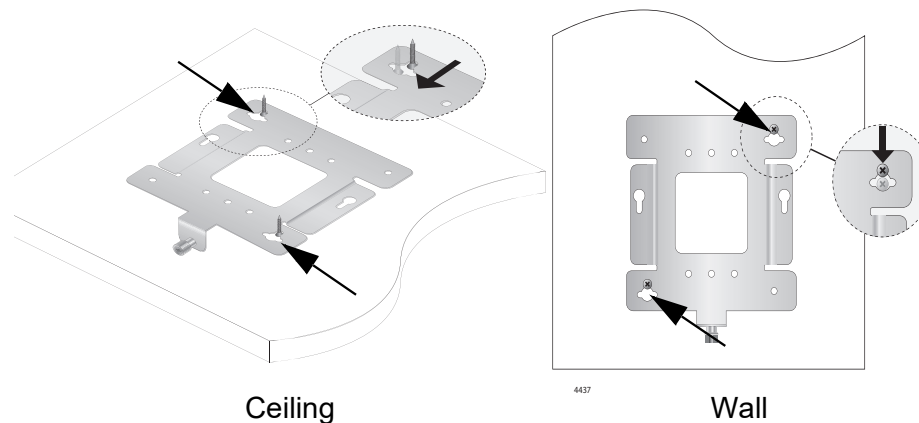

Figure 9. Mount Bracket On Screws Using Key-Hole Slots
- Insert the openings of the bracket key-hole slots under the two screw heads and slide the bracket into narrow end of the key-hole slot opening. Refer to arrows in Figure 9. Tighten the screws snugly onto the bracket.